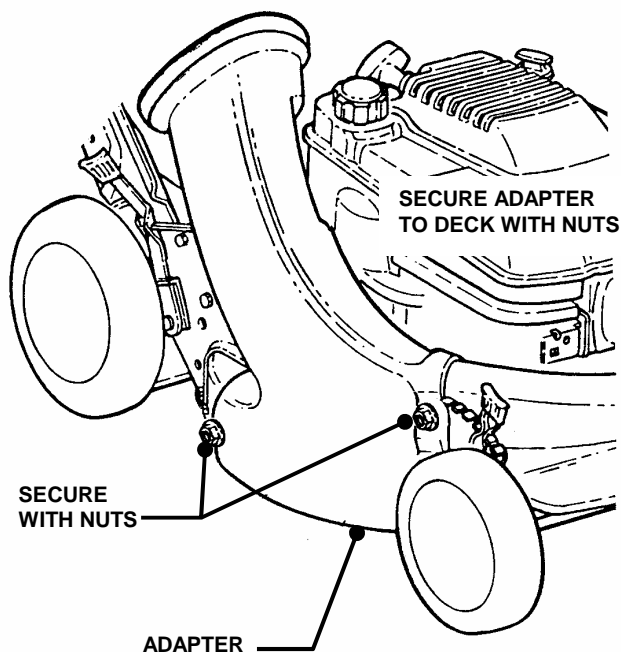

FIGURE 2.7
STEP 1: Install the grass bag adapter and secure to the side and top of the deck with the two nuts provided with the machine. Slot in front edge of adapter must be under nut located on top of deck. See Figure 2.7.